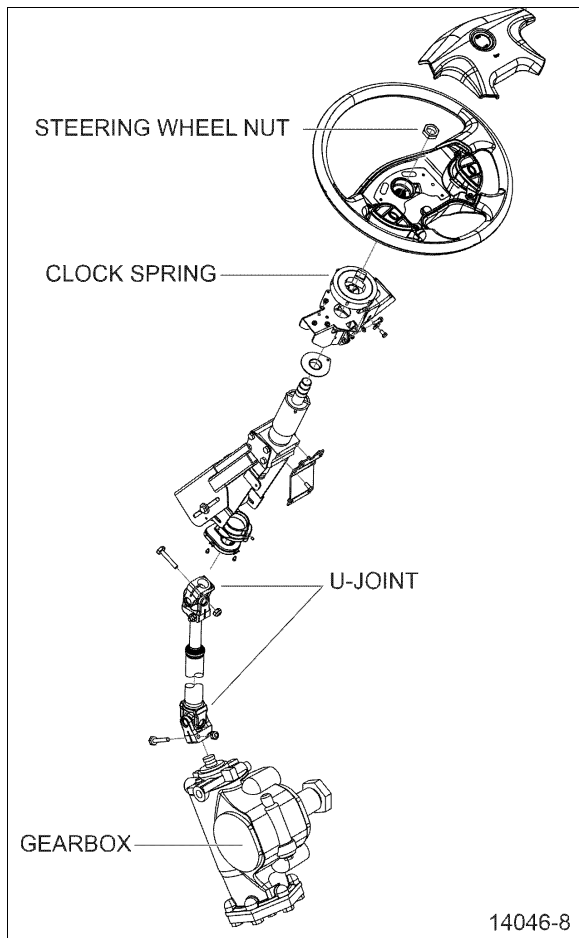
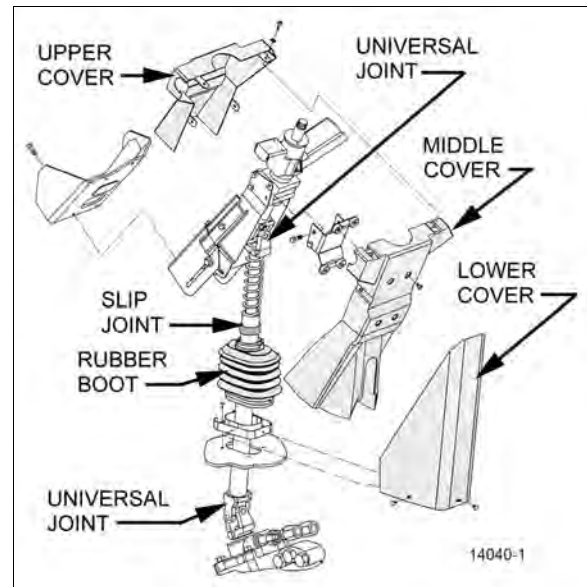

FIGURE 8: STEERING COLUMN
FIGURE 9: STEERING COLUMN COVERS
To disassemble the steering column from system, refer to Figure 8 & Figure 9. The steering column has no lubrication points. The lower steering column U-joint is easily accessible through the front service compartment. The upper steering column U-joint and the steering slip joint are accessible from the front driver's area. To access these joints, proceed as follows:
1. From the front driver's compartment area, remove the three plastic fasteners on steering column lower cover. Remove the lower cover (Figure 9).